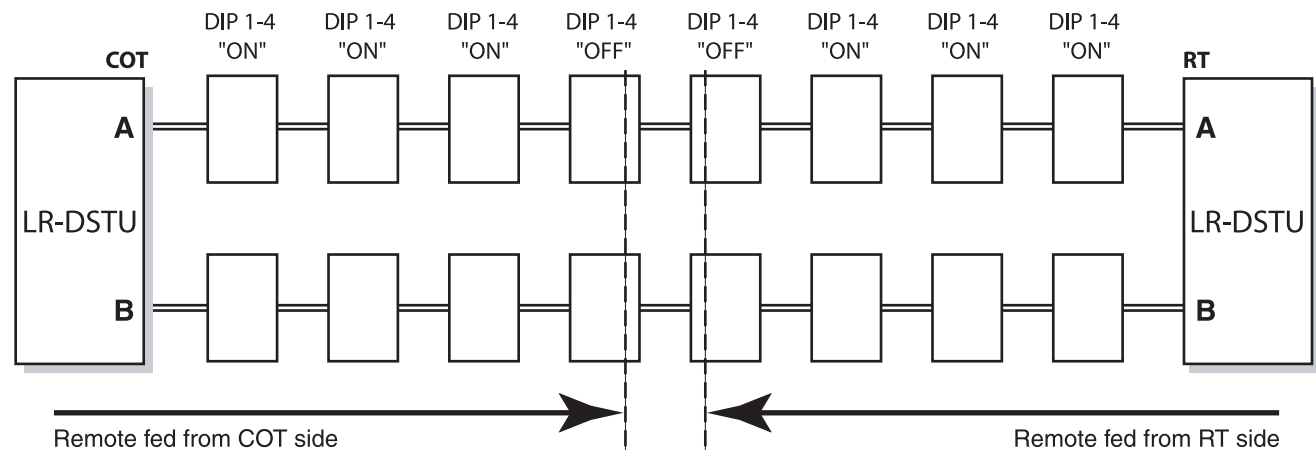

Fig. 2.211 Possible configuration of the remote power supply with use of 8 LR-SRUs
- with use of 8 LR-SRUs per system (Fig. 2.211).